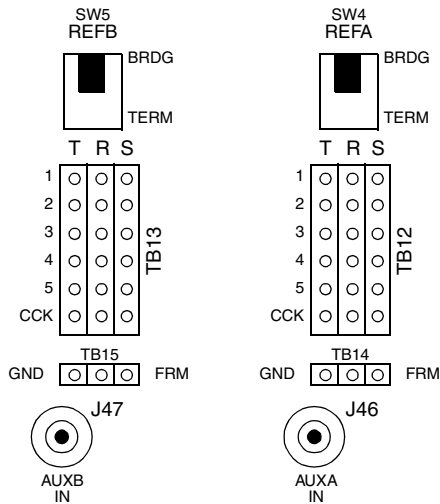

Figure 18. Rear Panel Clock Input Connectors
3.16 Use these instructions to connect reference inputs to the REF A and REF B section of the shelf rear panel (Figure 18). The REF A section accepts signals for the clock input card in the MRC 1 slot, and the REF B section accepts signals for the clock input card in the MRC 2 slot. The next section provides instructions for connecting reference inputs to input modules.